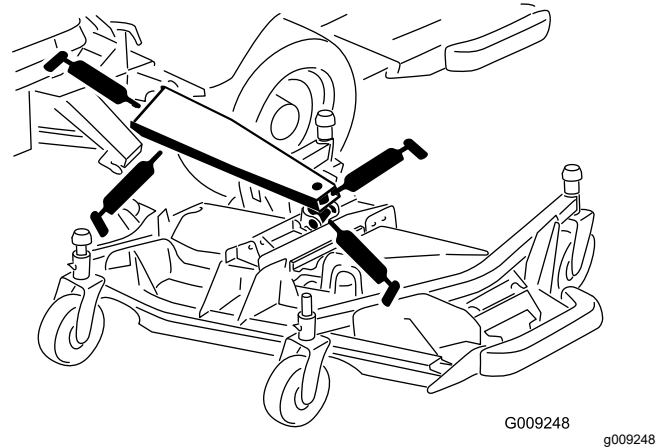

Figure 55
- 3 main lift-arm bushings (Figure 55)
- 1 lift-cylinder bushing (Figure 55)